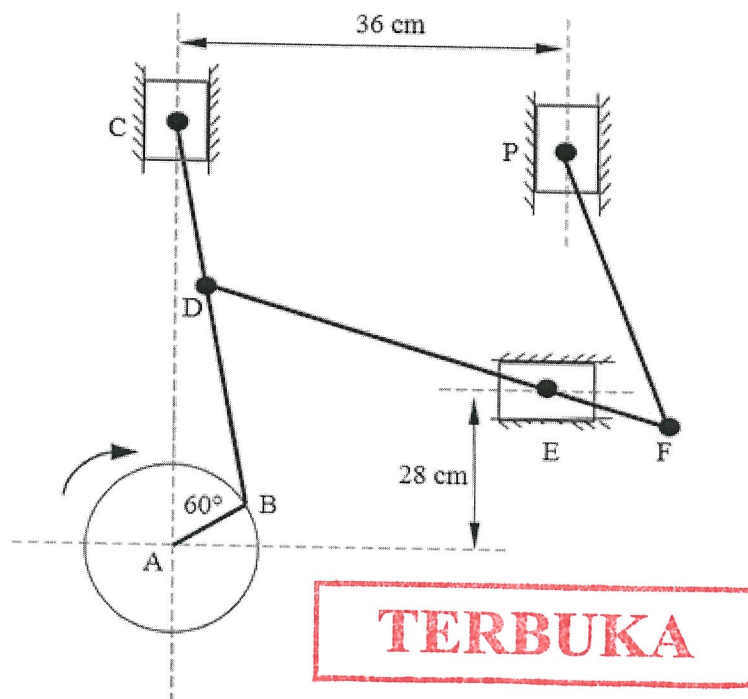

Figure Q5
- (b) **Figure Q5** shows a space diagram of mechanism in a typical kinematics systems. Crank AB rotates at 200 RPM. Dimensions of the links are AB = 120 mm, BC = 480 mm, CD = 180 mm, DE = 360 mm, EF = 120 mm and FP = 360 mm,